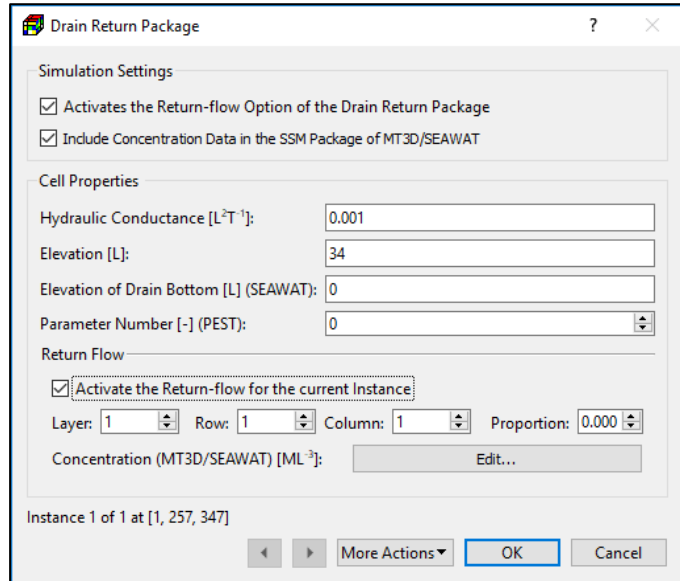

Figure 47. the Drain Return Package dialog box for specifying cell properties
2. **Cell-by-cell input method:** Figure 47 shows the dialog box for specifying cell properties.